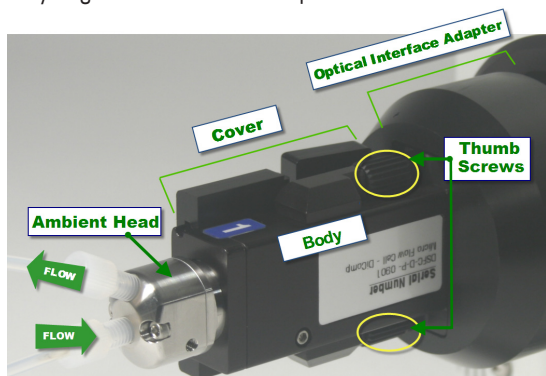

Figure 2: DS Micro Flow Cell (ambient) installed
3. Secure the DS Micro Flow Cell with the two captive screws in the vertical plane. **Figure 2** shows the thumb screw location.
Figures 2–5, and 8 show that flow input to a DS Micro Flow Cell must be straight into the center of the flow cell head. Flow cell heads are symmetrically designed to allow 180-degree vertical orientation in the flow cell body, so before attaching your tubing, verify proper orientation of the flow cell head.